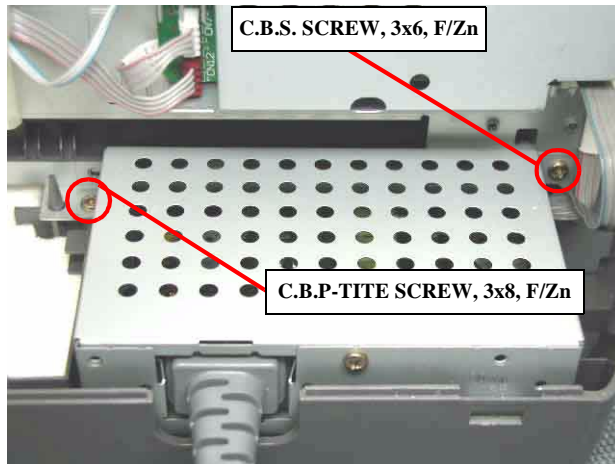

Figure 4-22. PSB/PSE unit removal
- Fasten two screws (C.B.P-TITE SCREW 3x8 F/Zn, C.B.S. SCREW 3x6 F/Zn) for securing the PSB/PSE unit to the Lower housing. (Refer to Figure 4-22)